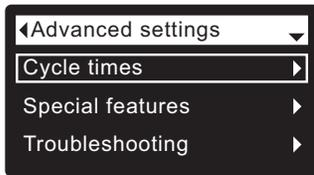

FIG. 66
3. Press the SELECT (O) button to display the Advanced settings menu (See Figure 66).